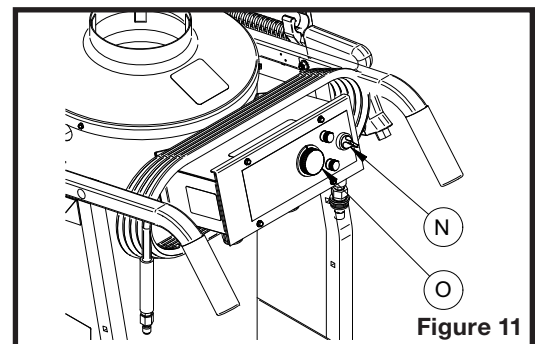

Figure 11
4. Connect the attachment plug to a proper electrical source. Circuit breaker for this source should match with the washer nominal current. If an extension cord is used, it should be the same size as the washer power cord or larger if washer cord and extension cord total length exceeds 35 ft. Turn pump switch (N in figure 11) to cold water position.
3. Turn the switch (N on figure 11) to hot water position.
4. Adjust the thermostat (O on figure 11) to desired temperature.